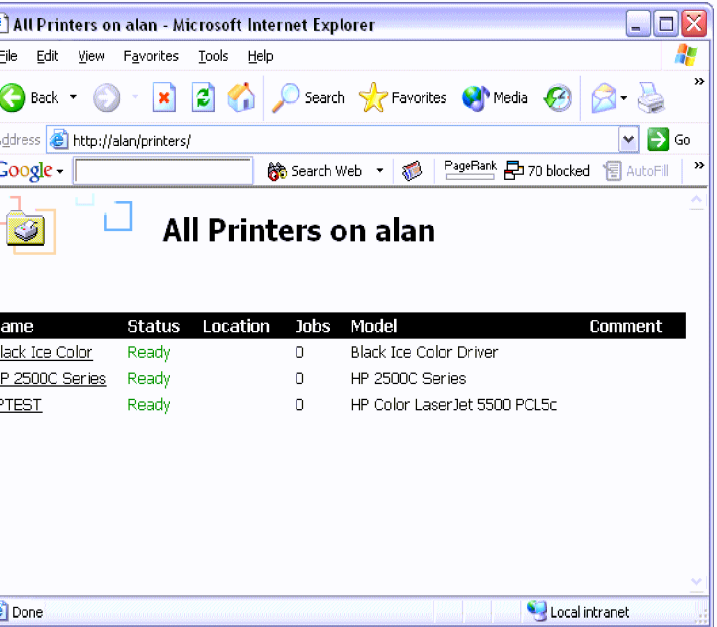

FIGURE 1
3. This will display a screen similar to **FIGURE 1**.